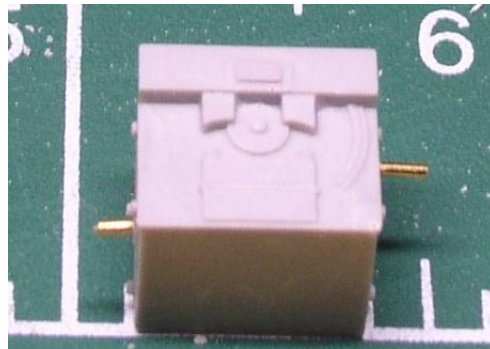

Figure U21
23. Drill out the holes in the sides of the charcoal heater using a 0.034" drill. Glue short pieces of 0.032" rod in these holes. See Figure U21.